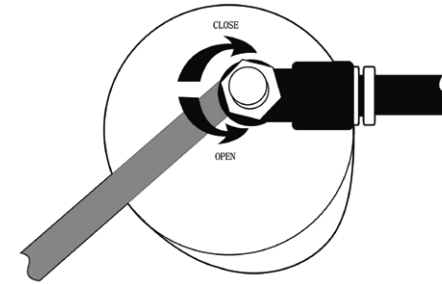

Fig. 2
5. Ensure the regulator on the top of the bottle is on the closed position before you connect the air line to the tyre (see fig. 2). Ensure that the pressure bottle is in a safe upright position.